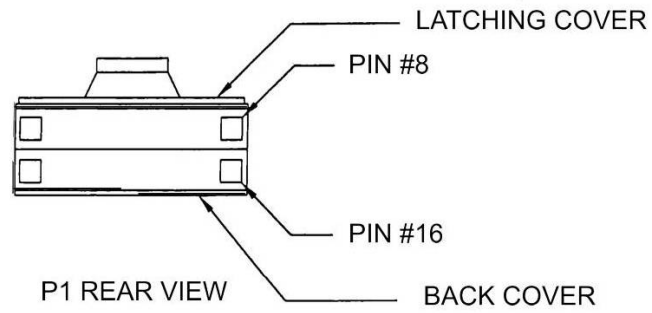

Fig. 5
- l) Assemble P1 connector back and polarizing cover to contact housing. Refer to Fig. 5
- f) Assemble P1 connector back and polarizing cover to contact housing. Refer to Fig. 5